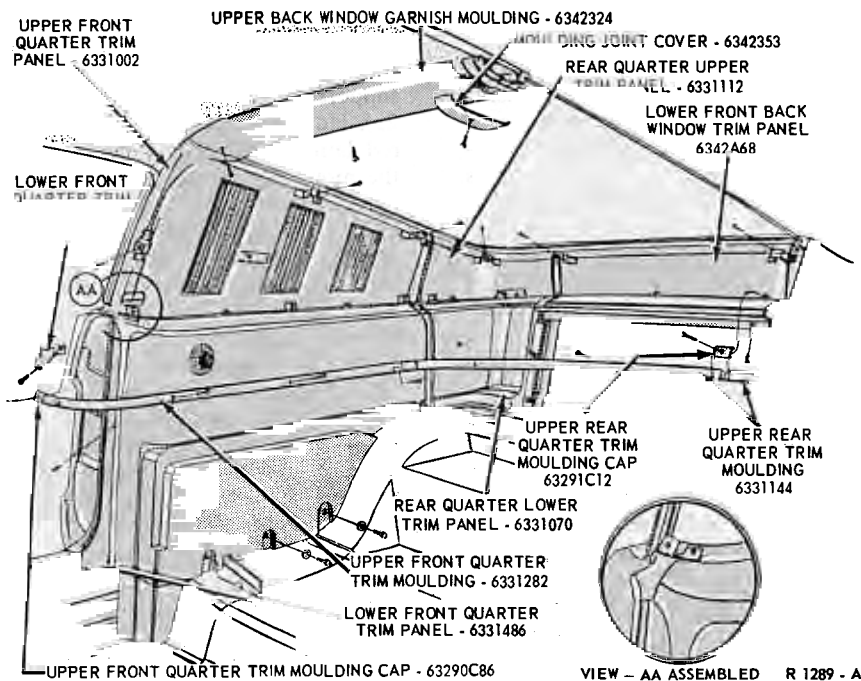

FIG. 23—Interior Moulding and Quarter Trim Panel Installation—Mustang Body Type 63
2. Remove the quarter trim upper rear moulding cap retaining screw and remove the cap. Remove the quarter trim upper left and right rear moulding retaining screws and remove the mouldings. (Fig. 23).
3. Remove the back window garnish moulding upper joint cover. Remove the back window upper left and right garnish moulding retaining screws and remove the mouldings (Fig. 23).
air extractor grille assembly (quarter trim upper front panels) retaining screws and remove the panels (Fig. 23).
5. Remove the back window lower front left and right trim panel retaining bolts and screws and remove the panels (Fig. 23).